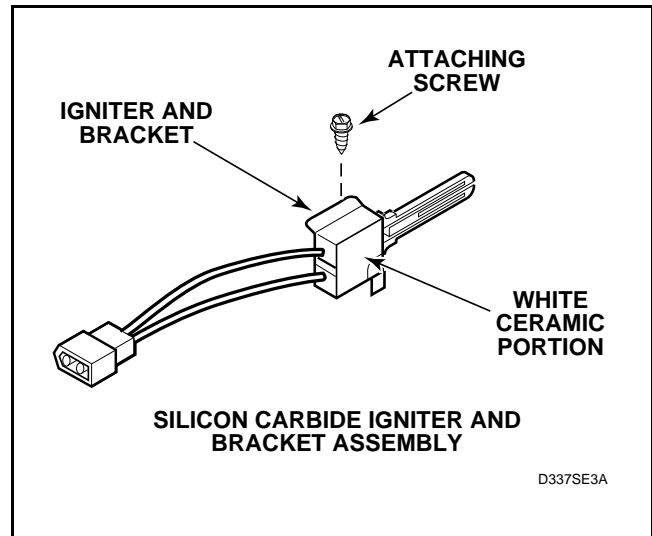

Figure 10
- f. Meter should read between 45 – 200 Ohms. Refer to *Figure 10*.